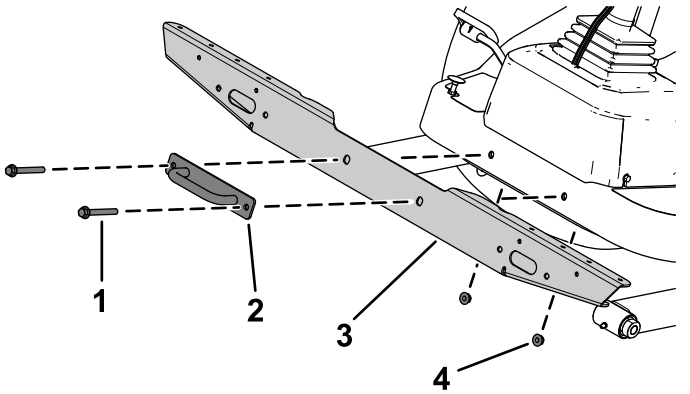

Figure 18
- Secure the light cross mount to the platform using the previously removed bolts, nuts, and tie-down bracket (Figure 18).